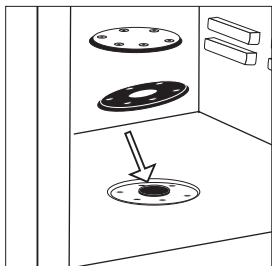

Figure 3
3. Remove the mounting hole cover plate and gasket along with the cap to uncover the mounting hole (Figure 3).